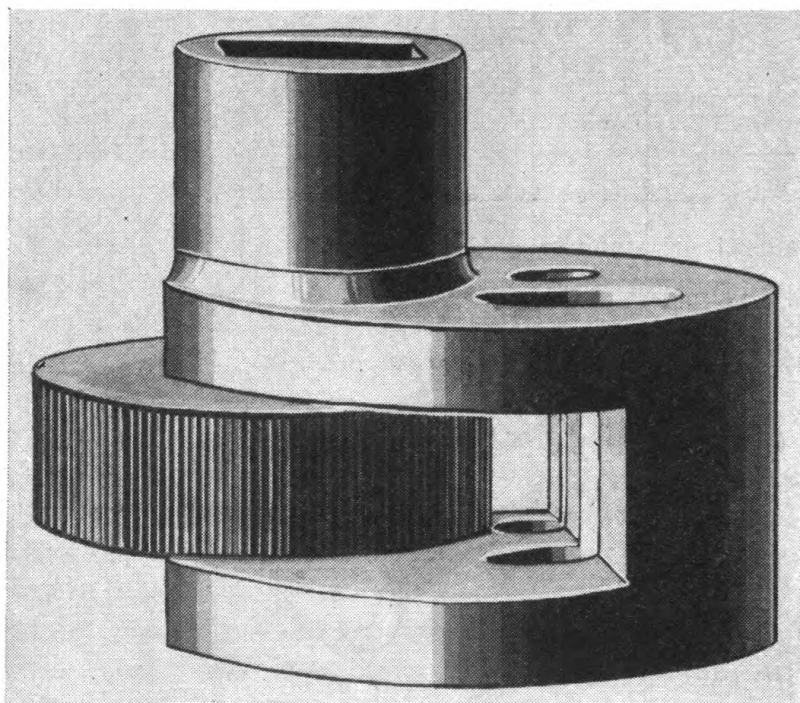

FIGURE 12.—Stud wrench.
(6) *Stud wrenches*.—Stud wrenches (fig. 12) are used with a socket wrench handle for removing or setting studs. A knurled